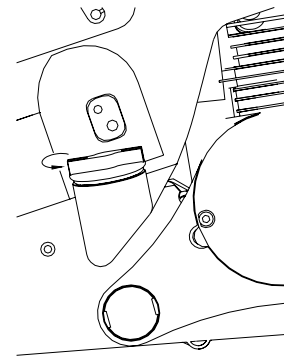

Fig. 4
3. Remove the fuel tank cap slowly and carefully to allow any pressure build-up in the tank to be released (Ref. Fig. 4).